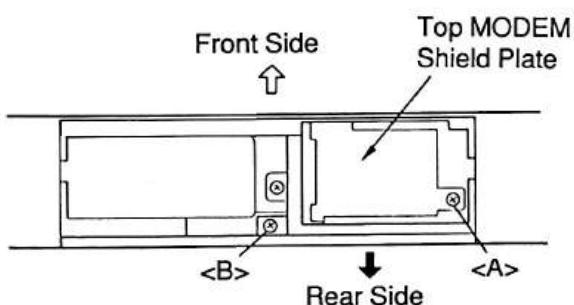

Figure 5
(8) Open the battery cover and remove one screw <A> ( $3\varnothing \times 6$ ) fixing the top MODEM shield plate and one screw  ( $3\varnothing \times 10$ ) as shown in Figure 5.